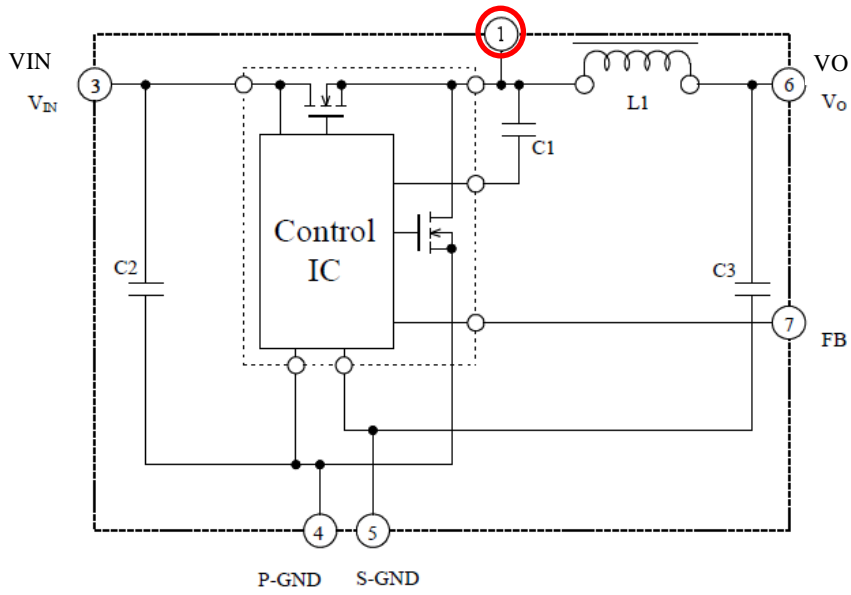

Figure 5-1 Internal connection of 1 pin
(1)1 pin is not the function pin but the test pin to measure the oscillation frequency. Therefore 1mm of pin remains though it is cut off at the root of pin after test. Since the remained pin is live part, please pay attention to avoid the connection of the remained pin and the other live part pattern.( Figure 5-1)